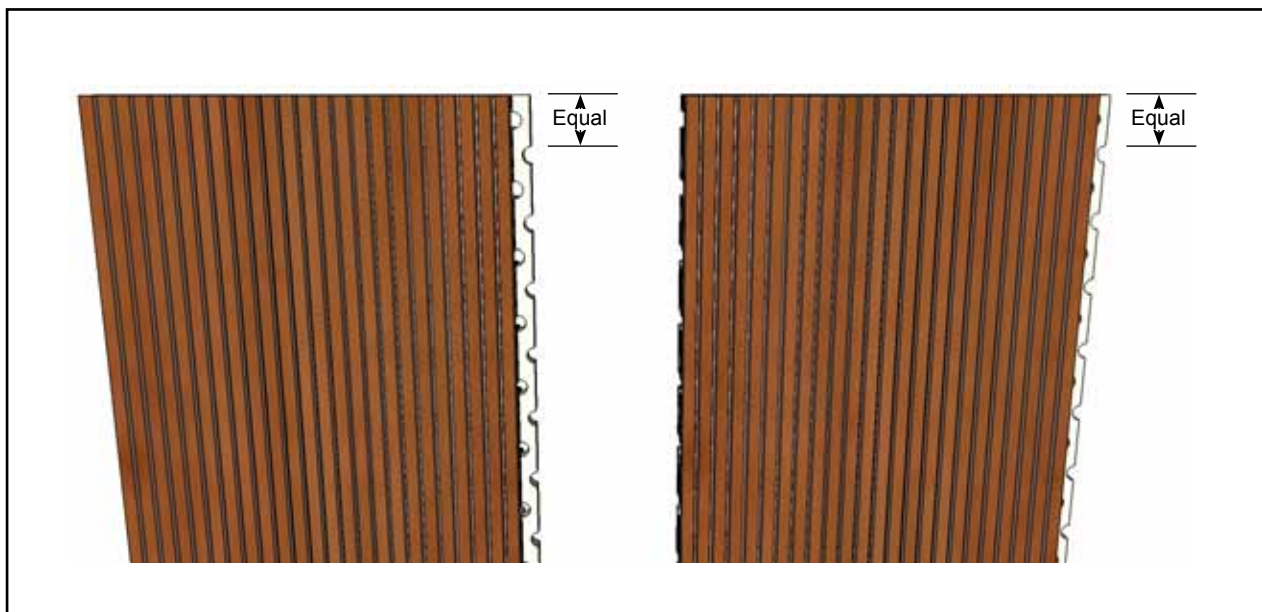

Figure 2
2. Cut planks to length while ensuring that all holes in each plank are identically spaced from ends so that the hole pattern will match on all planks. (Figure 2)